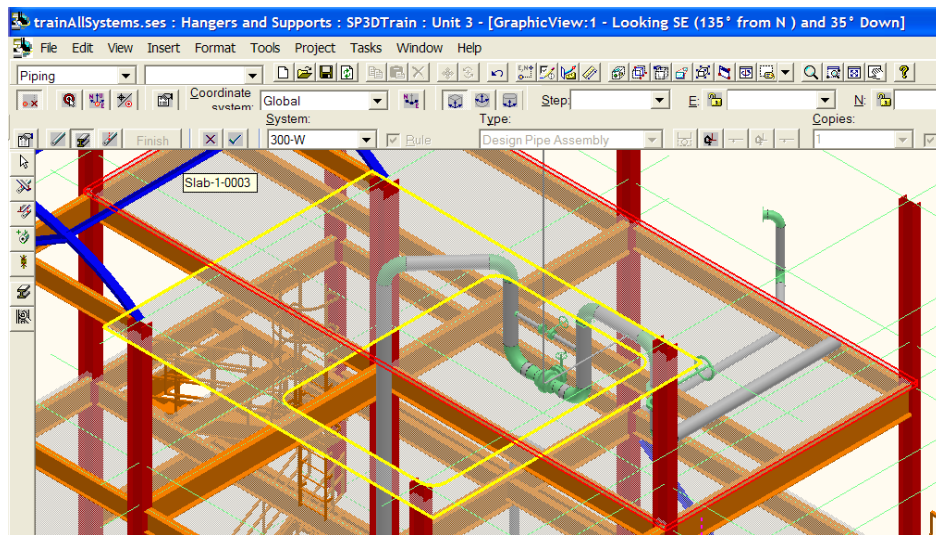

Figure 24: Selected Supporting Structure
4. Select the slab as the supporting structure, as shown in Figure 24.